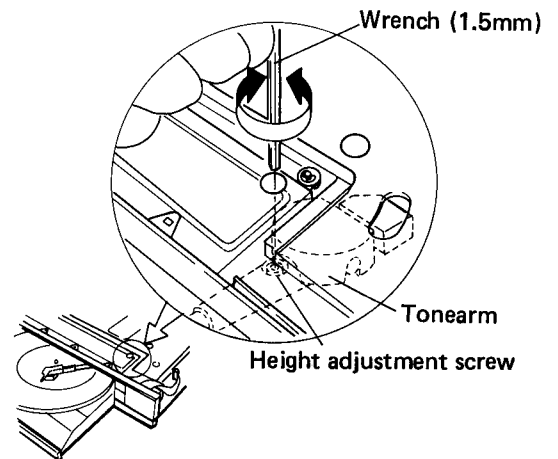

Fig. 9.6 Stylus Height Adjustment
- While holding the tonearm in the left hand, adjust the adjustment screw with a wrench (1.5mm) passed through the adjustment hole as shown in Fig. 9.6.